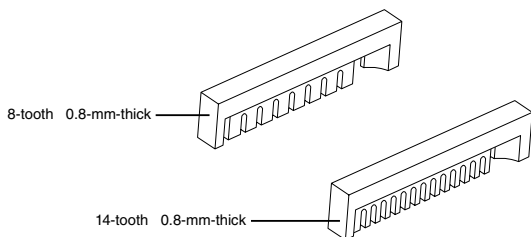

Figure 6. Combs.
- **Combs** (figure 6). The white DELRIN combs are used for casting wells in agarose gels. Two combs are standard components of the apparatus: one 8-tooth, 0.8-mm thick and one 14-tooth, 0.8-mm thick. (See table 3 for capacities of wells generated by these combs.)